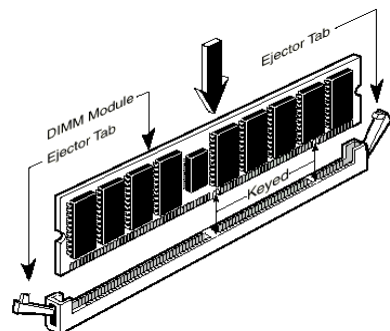

Figure 2-6. Memory module installation
- Step 5.** Insert the DIMM module into the expansion socket as shown in the illustration. Note how the module is keyed to the socket. You can refer to Figure 2-6 for the details. ***This insures the DIMM module will be plugged into the socket in one way only.*** Firmly press the DIMM module into DIMM socket, making certain the module is completely seated in the DIMM socket.